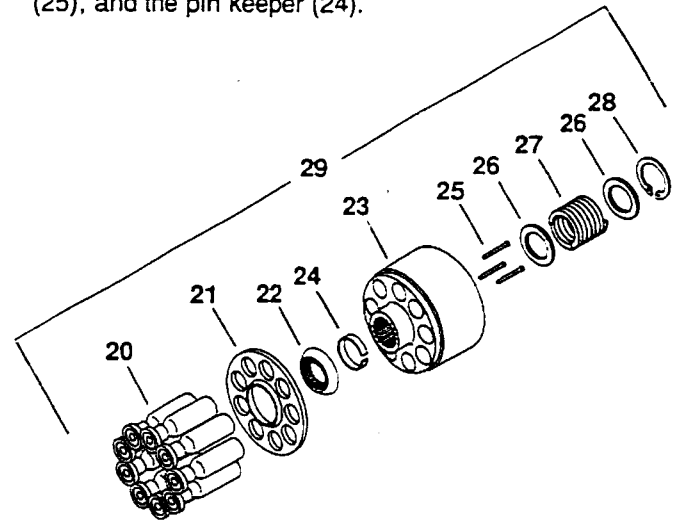

Figure 1
- 1 Clamp the end of the drive shaft in a protected jaw vise with the body of the pump up and remove the four cap screws (34) from the pump assembly.
- 2 Use a plastic mallet and tap the adapter assembly (52) to loosen it, then pull the adapter straight up until it is free.
- 3 Remove retainer (60), spring (59), and poppet (58) from adapter assembly.
- 4 Remove the two check valve assemblies (53) from backplate (33). Pin (57) is a loose fit. Caution must be taken when removing check valve assembly so that pin (57) and ball (56) are not lost.
- 5 Remove outergerotor (49), inner gerotor (47), and key (48) from backplate (33). From front pump of tandem remove coupler (45) and lock ring (46).
- 6 Use screw driver slots in housing and pry up on backplate (33) or tap with plastic mallet to loosen, then pull the backplate straight up to remove. Remove gasket (31).
- 7 Remove tow valve assembly (39A) or plug (39) from backplate. Remove retaining ring (40) from spreader (43), and pull spreader from spreader plug (41).
- 8 Remove plug assembly (35), spring (37), and relief valve assembly (38).
- 9 Remove pump from vise and remove rotating assembly (29) from pump housing.
- 10 If pistons (20) did not come with piston block, you may remove them, spider (21), and spider pivot (22). See Figure 1
- 11 The disassembly of the piston block assembly (23) is not required unless the pins (25) or spring (27) are possibly damaged. See Figure 1